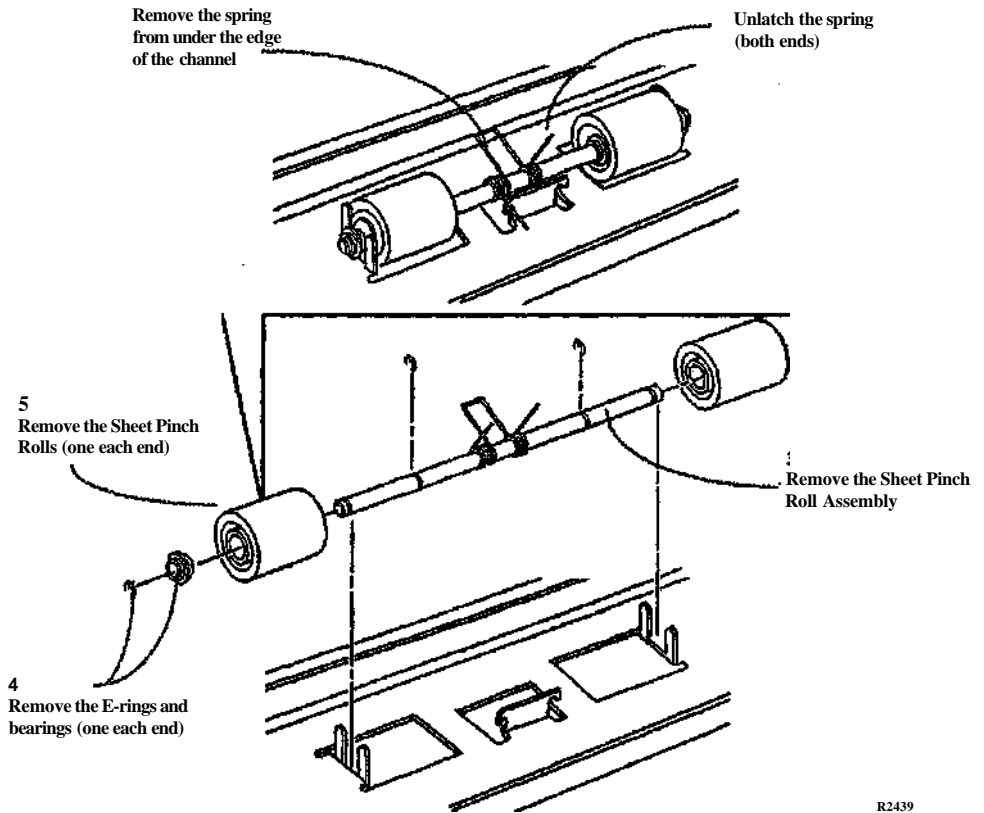

Figure 1. Removing the Sheet Pinch Rolls
6. (Figure 1): Remove the Sheet Pinch Rolls.